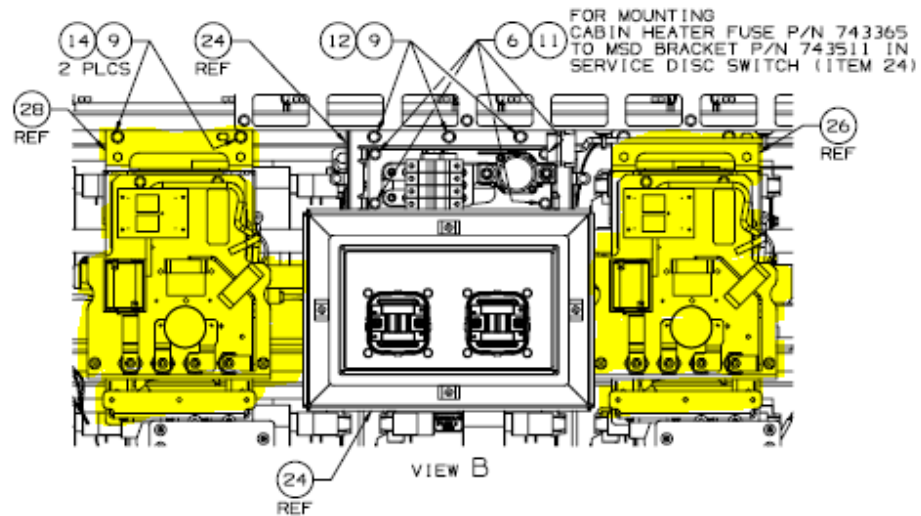

Figure 10: Rear BDU Assemblies
- 3.3 Remove the two BDU assemblies while saving the existing hardware to re-use. 4 bolts are used to secure the BDU to the ESS and 4 nuts are used to secure the bus bars as seen below in figure 10.
- 3.3.1 Remove the 4 nuts securing the bus bars to the BDU as seen on the bottom of the left view in Figure 10. (97 ±8 in-lbs for re-installment).